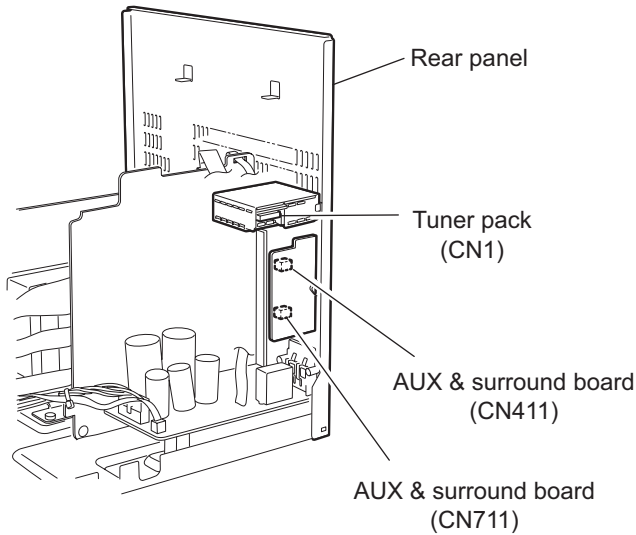

Fig.21
3.1.9 Removing the rear panel (See Fig.21~25)